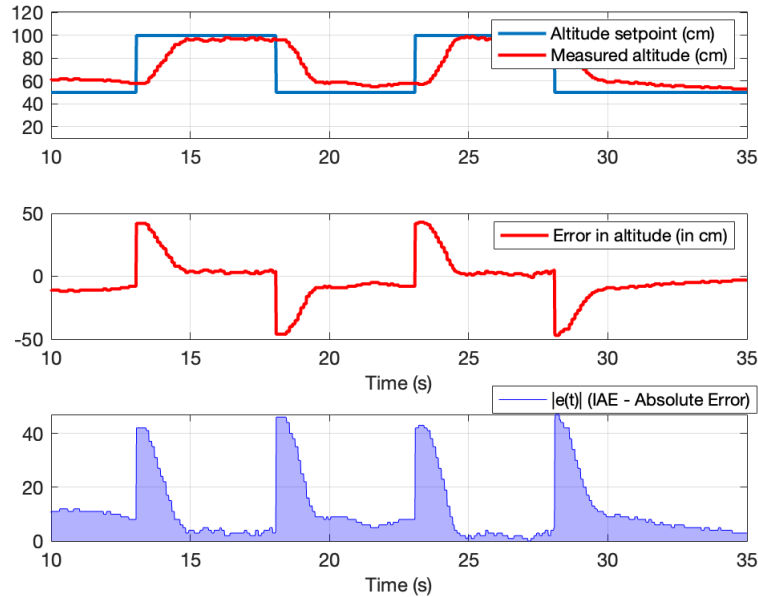

Figure 3.12: Closed-loop response of the mini-drone to a square wave altitude setpoint
16. Execute the `dataCL_plot.m` file to get a plot similar to Figure 3.12.